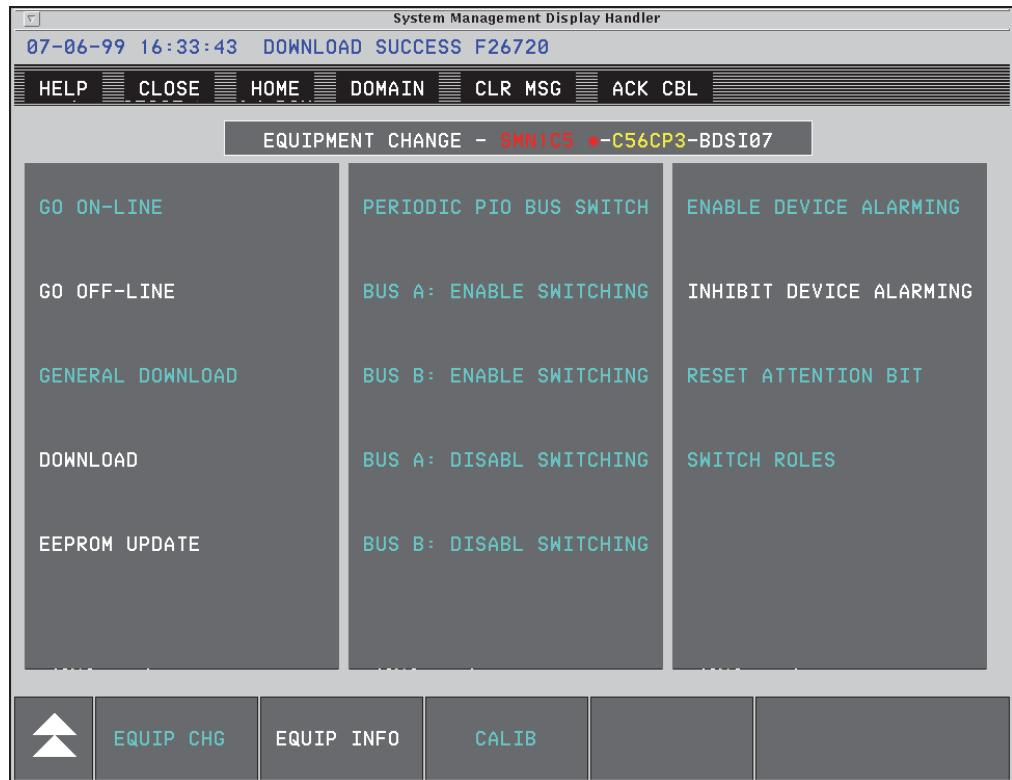
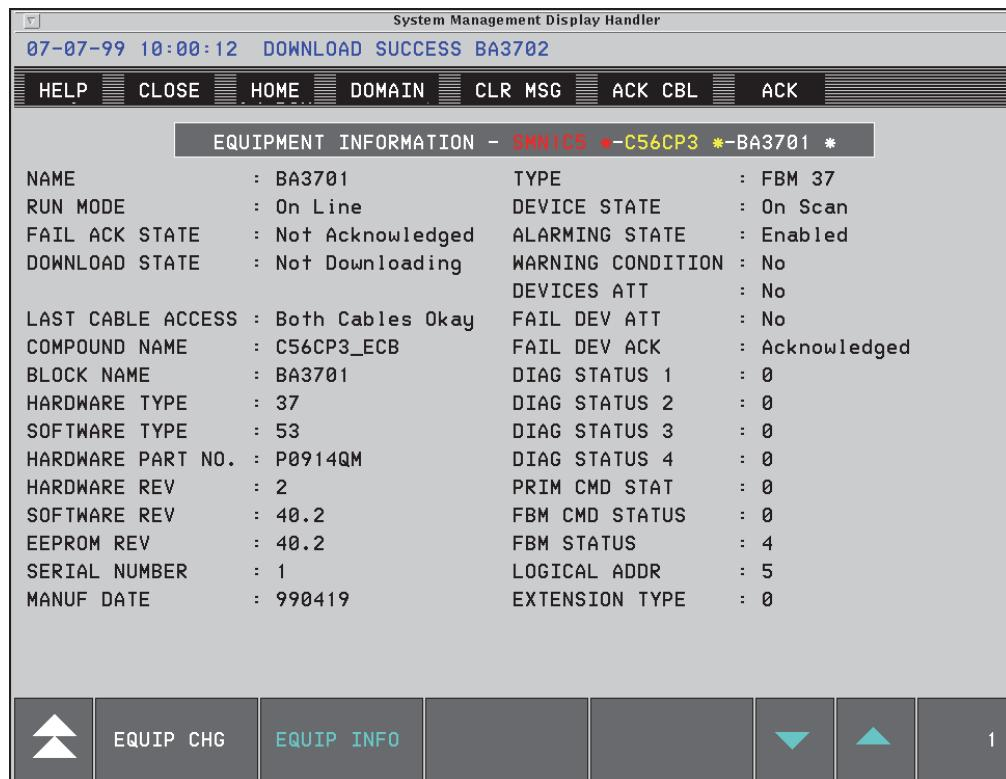

Figure 4-2. Typical Equipment Change Display (SMDH)
Figure 4-3. Typical Equipment Information Display (SMDH)
- ◆ Detailed equipment change (**EQUIP CHG**) and equipment information (**EQUIP INFO**) displays for each DCS Fieldbus Module (see Figure 4-2 and Figure 4-3 for SMDH display).